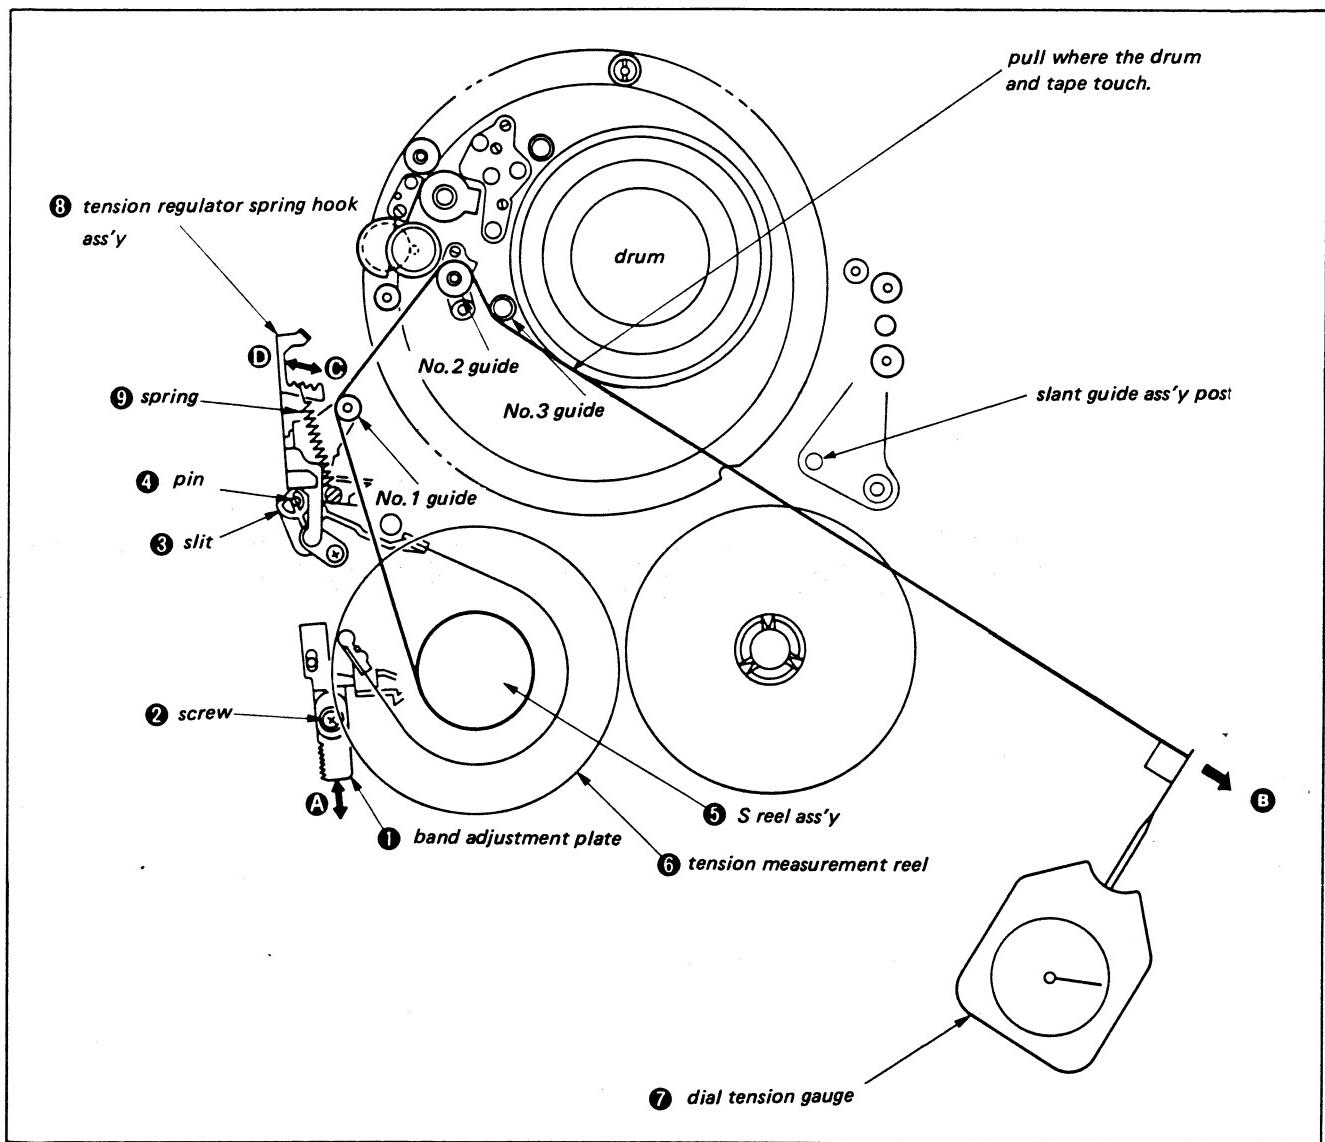

Fig. 3-50.
- 4) Loosen band adjustment plate **①** screw **②** and adjust as shown by arrow **A** so that the tension regulator arm assembly slit **③** and tension regulator arm assembly pin **④** are positioned as shown, and tighten screw **②**.
- 5) Place tension measurement reel (Ref No. J-7) **⑥** on the S reel table assembly **⑤** and line up with No. 1 guide, No. 2, No. 3 guide and the drum.
- 6) Pull dial tension gauge (Ref No. J-6) **⑦** in the direction of arrow **B** and hook spring **⑨** onto the tension regulator spring hook assembly **⑧** so that the value is $12.5 \pm 1\text{g}$, as shown. (Fig. 3-50)